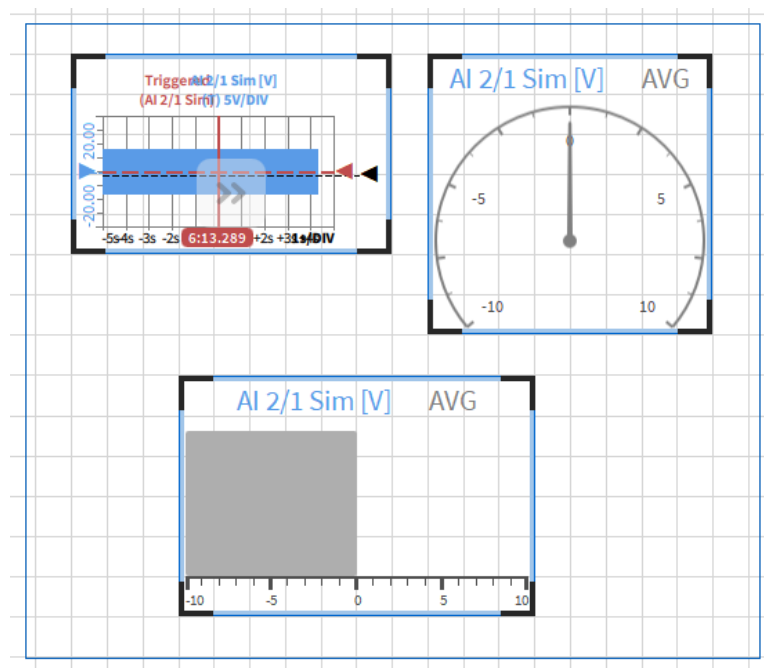

Fig. 8.3: Selection of several Instruments in the Design Mode
- Several Instruments on the screen can be selected by drawing a selection rectangular with the left mouse button like it is known from Windows Explorer or similar (see Fig. 8.3) or by keeping **CTRL+SHIFT** pressed while selecting the Instruments. All Instruments on a measurement screen can be selected by pressing **CTRL+A**.